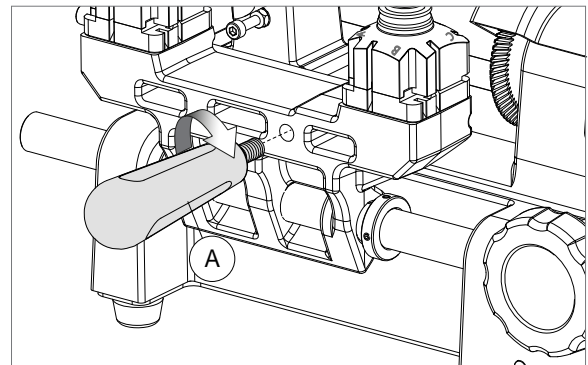

Fig. 11
Screw the handle (A) onto the carriage (Fig. 11).